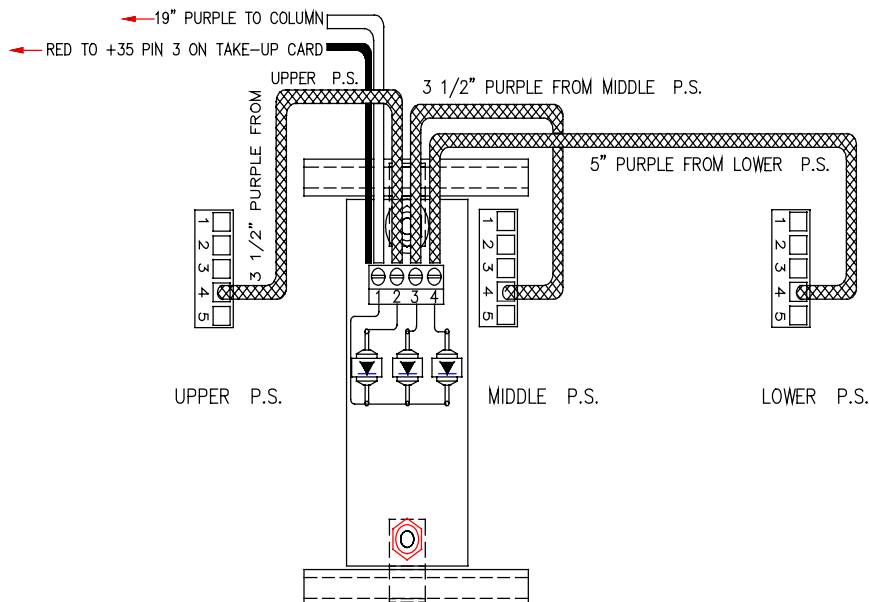

Figure 2
2. Install the diode card onto the power supply rails as shown in figure 2.